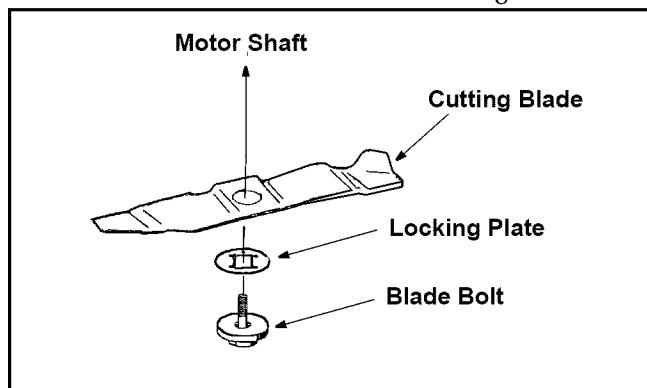

Figure 11
- Using a 24mm wrench or socket, loosen the blade bolt and remove the blade. Refer to Figure 11.
- Place the cutting blade, locking plate, and blade bolt against the blade hub assembly and thread the blade bolt in finger tight. Refer to Figure 11.
- Remove the blade and blade hub assembly and lubricate the motor shaft with light oil or engine oil. Refer to Figure 11.